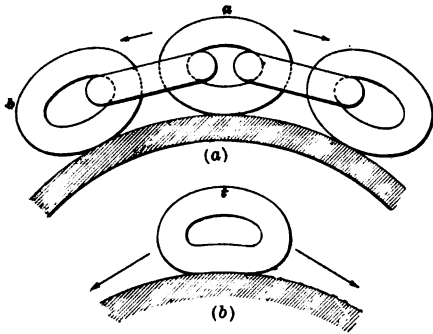
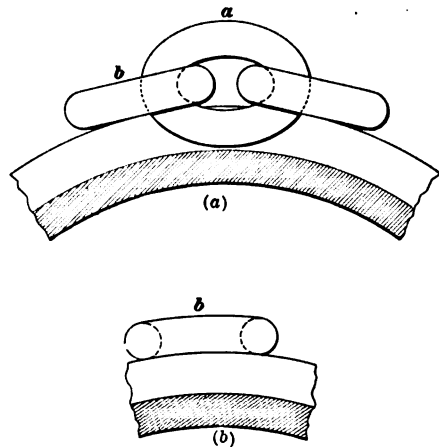

FIG. 5.
FIG. 6.
(1), (2), (3).—As regards the bending stress: (a), Fig. 5, shows parts of a chain in position on a crane drum, or barrel, that is not grooved. Looking at link *a* it will be seen that the tendency is to distort it, as in view (b), putting the top of the link *t* into severe tension; the longer the link the more it will have to bend. When the barrel is grooved, the groove is made of such a depth that the vertical links clear the bottom, and allow the horizontal links to bear on the barrel, as in (a), Fig. 6. Here conditions are reversed, *b* being more severely strained than *a*. In this case, also, it will be seen to be an advantage for the link not to be unnecessarily long, for the tendency is to bend the link, as in view (b).